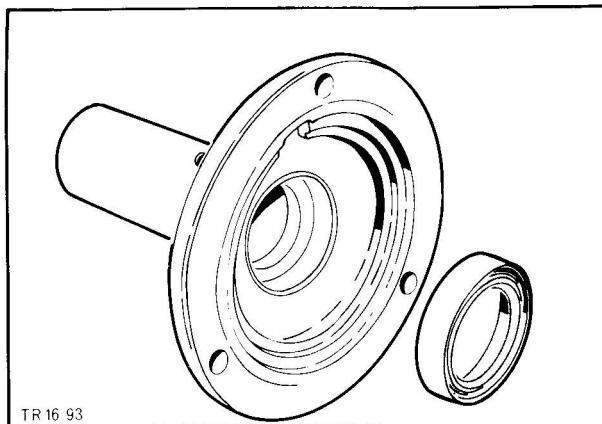

Fig. 91. Main drive gear bearing retainer installed
35. Using a suitable piece of tube, carefully insert new oil seal into main drive gear bearing retainer so that the sealing lip points towards the gearbox casing when installed, Fig. 91.